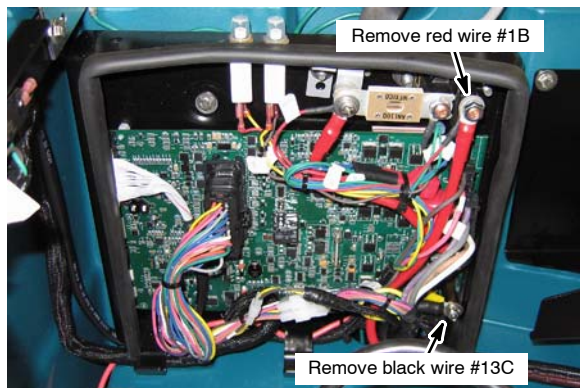

Fig. 4
3. Remove the red (#1B) and black (#13C) wires coming from the charger plug. Discard charger plug assembly (Figure 4).